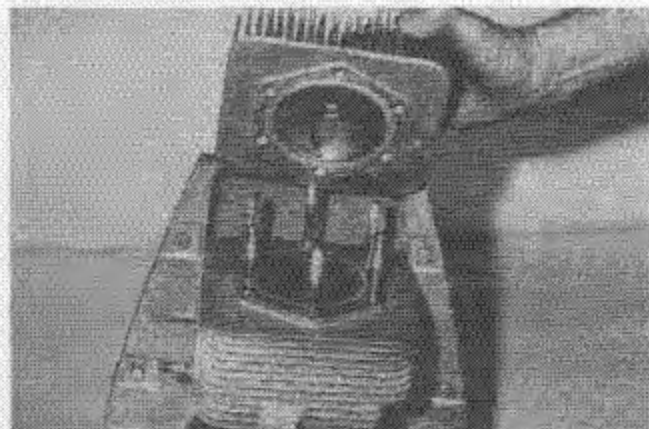

Fig. 10 — Installing Cylinder Head
9. Place new head gasket on cylinder with wide side of metal ring facing up, then install cylinder head with flat portion of combustion chamber toward exhaust side of engine. Fig. 10. Install washers, spacers and nuts tightened to 18-21 ft.-lbs. torque.